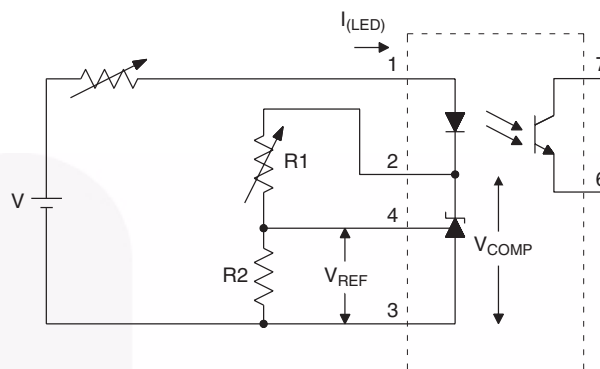

Figure 2. $\Delta V_{REF} / \Delta V_{COMP}$ Test Circuit
3. The dynamic impedance is defined as $|Z_{OUT}| = \Delta V_{COMP}/\Delta I_{LED}$. When the device is operating with two external resistors (see Figure 2), the total dynamic impedance of the circuit is given by: